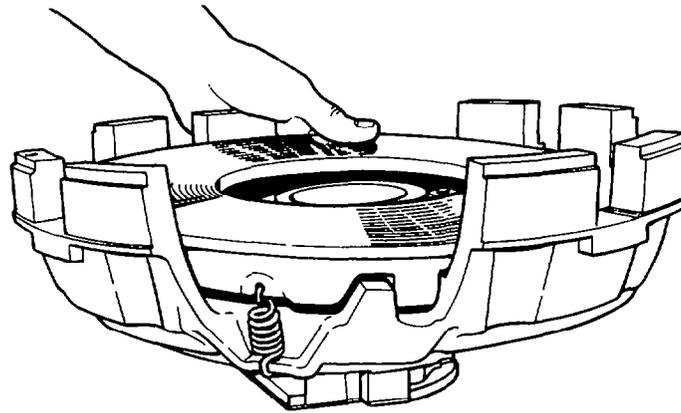

Fig. 160 — Pressure Plate Return Springs
- c. Invert the assembly so that the pressure plate is uppermost; unhook the return springs from the clutch housing (see fig. 160).